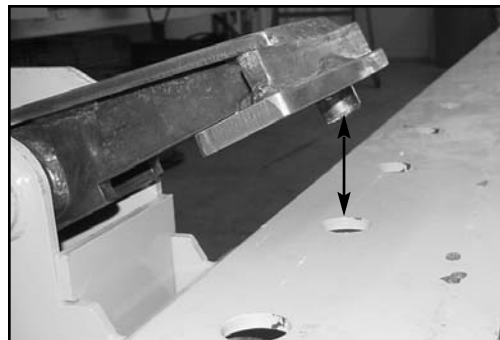

Figure 27
4. To secure tower to mainframe, rotate “Sure-lock” lock lever back and down to engage “Sure-Lock” force clamp with mainframe pinning hole. (See Figure 27.) Fully lock “Sure-Lock” by stepping on lock lever. “Sure-Lock” force clamp is fully engaged when outer tower rollers are raised above the outer track. (See Figure 26.)